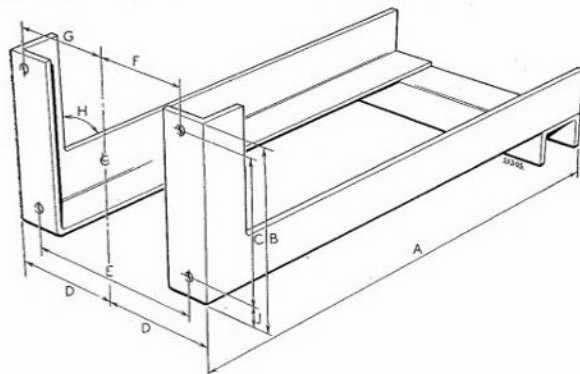

Fig. B.60. Engine removal support bracket dimensions
23. Using a locally manufactured support bracket to the dimensions given in Fig. B.60, bolt to the clutch housing, employing the gearbox securing holes. Position a trolley jack and wooden block, or an adjustable height table under the support bracket and raise to take the weight at the rear of the engine, during the initial stages of engine removal.